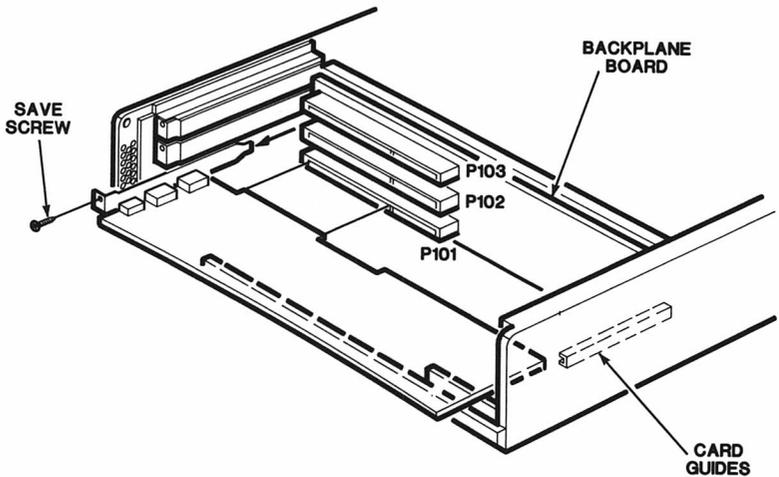

Figure 4-2. Circuit Card Removal
3. Refer to Figure 4-2 and remove the screw that secures the circuit card to the computer chassis.